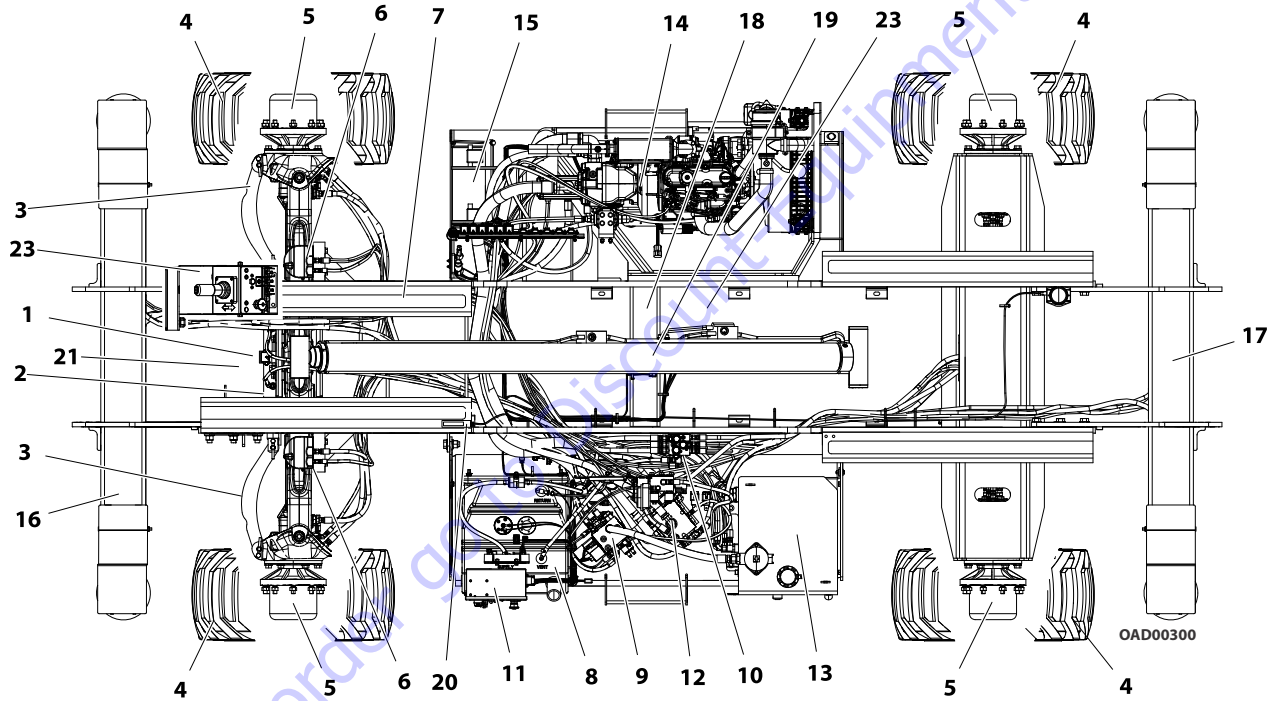

Figure 2-1. Walk-Around Inspection Diagram
- 5. "Walk-Around" Inspection** – Refer to Figure 2-1.